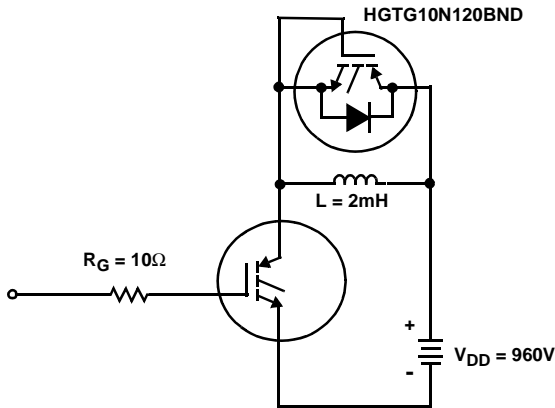

FIGURE 18. INDUCTIVE SWITCHING TEST CIRCUIT
| Current Turn-On Delay Time          | $t_{d(ON)I}$    | IGBT and Diode at $T_J = 25^\circ\text{C}$$I_{CE} = 10\text{A}$$V_{CE} = 960\text{V}$$V_{GE} = 15\text{V}$$R_G = 10\Omega$$L = 2\text{mH}$Test Circuit (Figure 18)  | -   | 23   | 26   | ns                 |
| Current Turn-On Delay Time          | $t_{d(ON)I}$    | IGBT and Diode at $T_J = 150^\circ\text{C}$$I_{CE} = 10\text{A}$$V_{CE} = 960\text{V}$$V_{GE} = 15\text{V}$$R_G = 10\Omega$$L = 2\text{mH}$Test Circuit (Figure 18) | -   | 21   | 25   | ns                 |
- Values for two Turn-On loss conditions are shown for the convenience of the circuit designer.  $E_{ON1}$  is the turn-on loss of the IGBT only.  $E_{ON2}$  is the turn-on loss when a typical diode is used in the test circuit and the diode is at the same  $T_J$  as the IGBT. The diode type is specified in Figure 18.